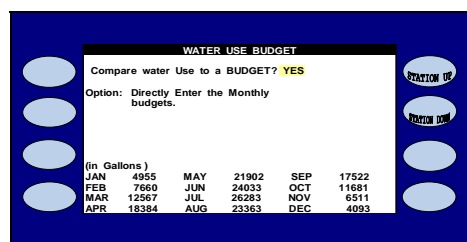
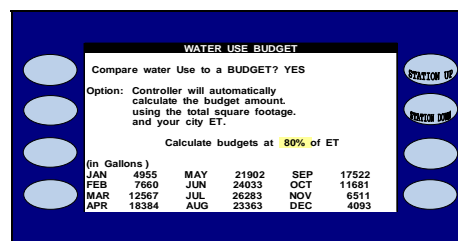
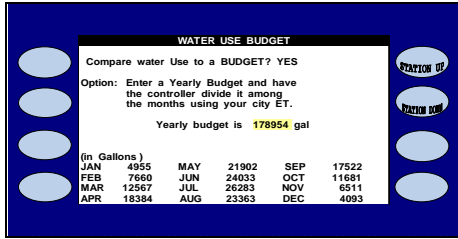

Figure 5.28
Figure 5.29
Figure 5.30
The first setting will be DIRECTLY ENTER THE MONTHLY BUDGETS (Figure 5.28).
1. In the WATER USE BUDGET screen (Figure 5.28). In the OPTIONS: setting press the **PLUS** or **MINUS** keys to change the setting to CONTROLLER WILL AUTOMATICALLY CALCULATE THE BUDGET AMOUNT USING THE TOTAL SQUARE FOOTAGE AND YOUR CITY ET (Figure 5.29).
1. In the WATER USE BUDGET screen (Figure 5.28). In the OPTIONS: setting press the **PLUS** or **MINUS** keys to change the setting to ENTER A YEARLY BUDGET AND HAVE THE CONTROLLER DIVIDE IT AMONG THE MONTHS USING YOUR CITY ET setting (Figure 5.30).